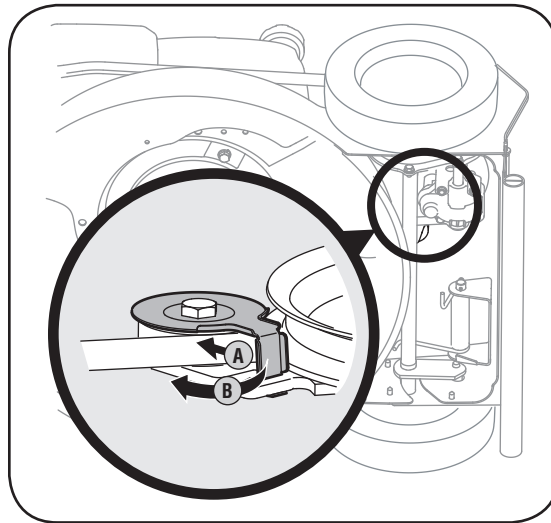

Figure 5-7: Rotate belt keeper to free the belt.
9. Using a pair of pliers, pull back and rotate belt keeper from the slot on the idler bracket, Figure 5-7.